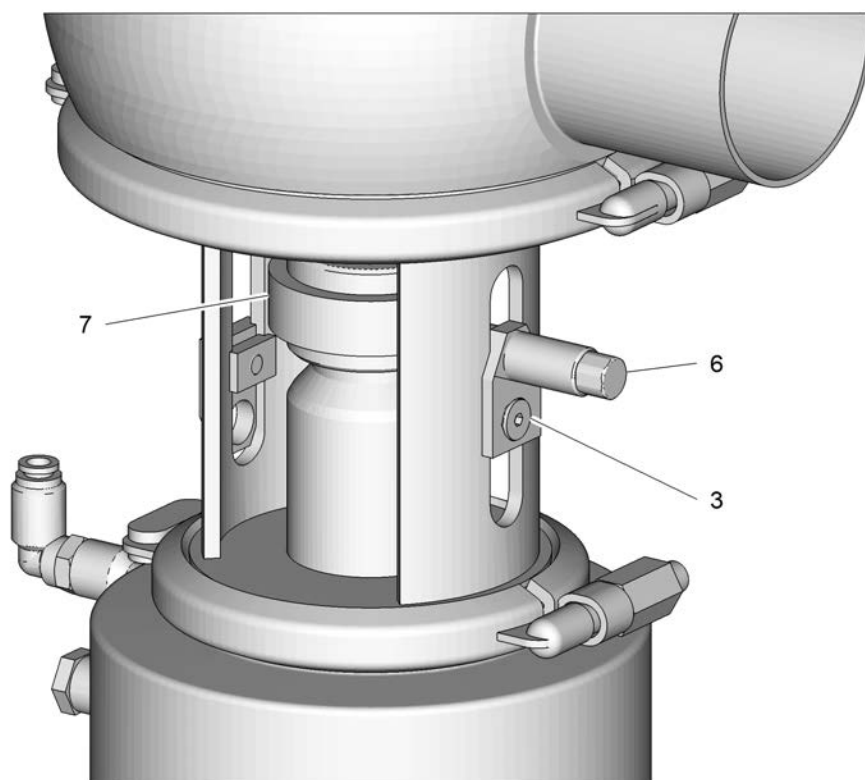

Fig.20
2. Position the proximity switch holder by slightly loosening the countersunk screw in the lantern recess in such a way that the tip of the adjusting mandrel (6) is resting on the collar of the leakage indicator facing the drive (A), see Figure 20.
3. Tighten the proximity switch holder with the countersunk screw (3).